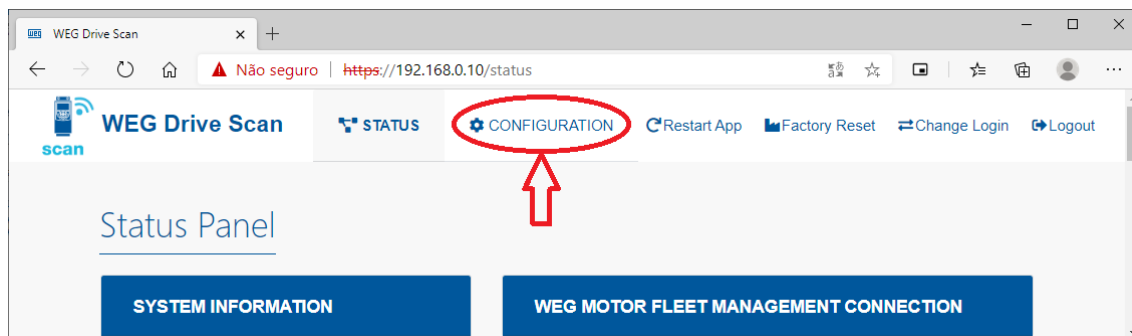

Figura 6.6: Status do Drive Scan
Passo 4 Clique na aba “Configuration”, conforme a Figura 6.6.